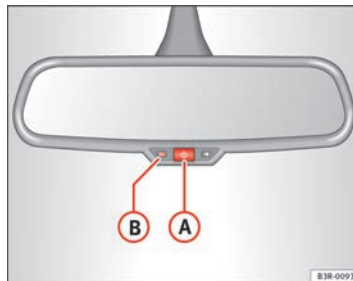

Fig. 102 Interior mirror with anti-dazzle setting: Indicator lamp and on/off switch ▶
- Press button **A** ⇒ Fig. 102. Indicator lamp **B** goes off.
- Press button **A** ⇒ Fig. 102. Indicator lamp **B** turns on.